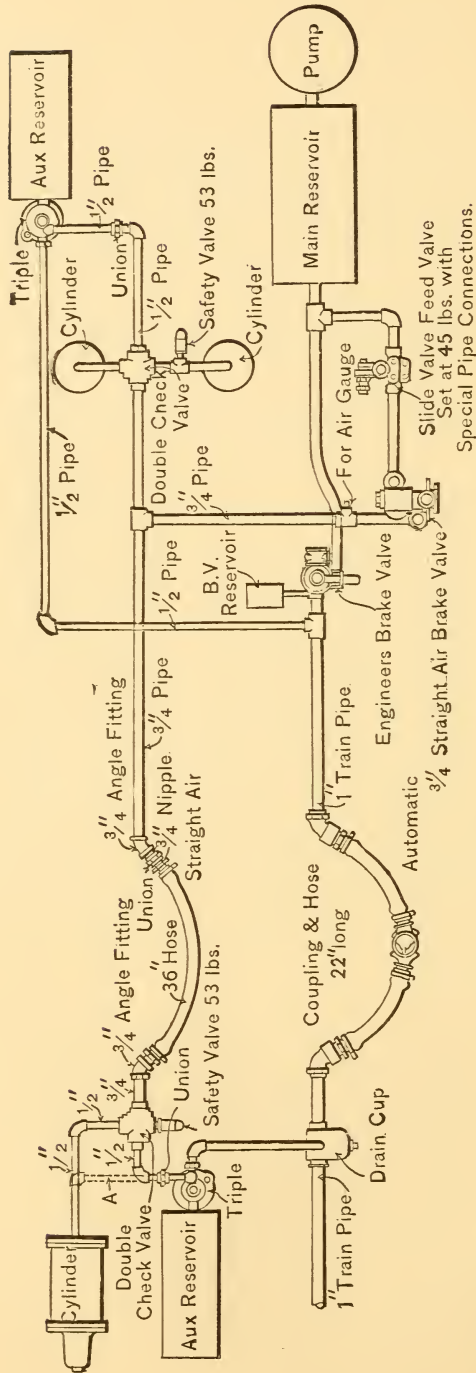
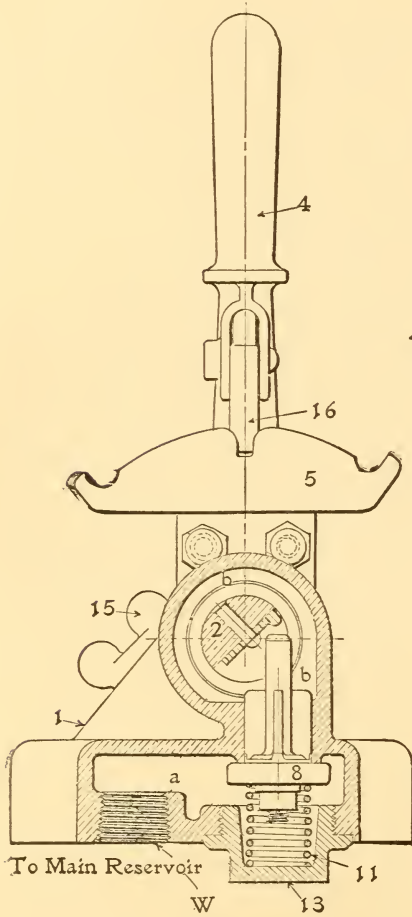
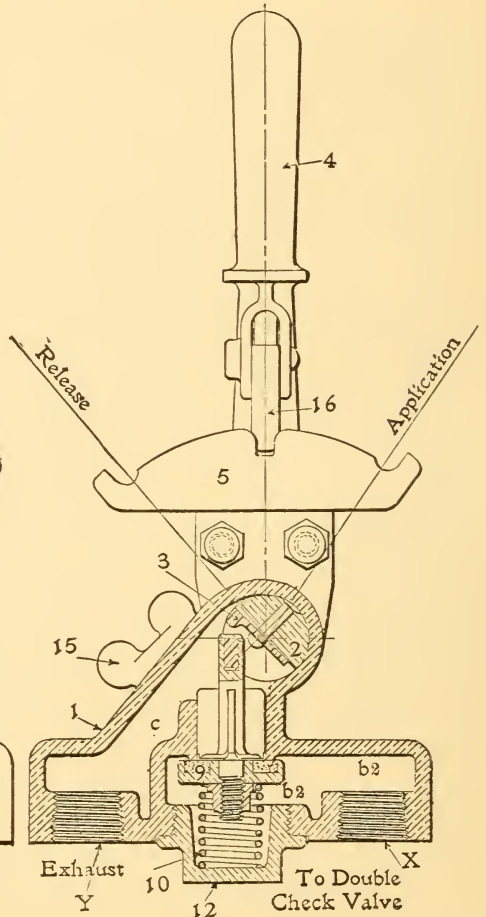

FIG. 62.—WESTINGHOUSE COMBINED AUTOMATIC AND STRAIGHT-AIR BRAKE.
FIG. 64.
FIG. 65.
A. As illustrated in Fig. 62, it is necessary to apply on the engine a Slide-Valve Reducing-Valve, a $\frac{3}{4}$ " Straight-Air Brake Valve, a Safety Valve set at 53 pounds, and a double check valve. On the tender the additional parts consist of a double check valve, a safety valve set at 53 pounds, and one 36-inch hose, with union, angle fittings and nipples.
Q. What is the object of the safety valve (Fig. 62)?
Q. What is the valve shown in Figs. 64, 65, 66, 67 and 68, and with what is it used ?
A. Fig. 66, a side view of the outside of the valve; the view (Fig. 68) is a horizontal cross-section through *FF* (Fig. 66); Fig. 67 is a vertical cross-section; Fig. 64, an end section showing the valve that controls the flow of pressure coming from the main reservoir; and Fig. 65 is an end section through a plane which permits the valve controlling the exhaust to be seen.
A. By the handle 4 acting through the shaft 2. As the handle is moved the shaft starts to rotate, thus causing one of the tappet pieces 3 (Figs. 64 and 65) to engage the stem of either valve 8 or 9, according to the direction in which handle 4 is moved. If moved to the right (Fig. 65) valve 8 is unseated; if moved to the left valve 9 (Fig. 65) is unseated. The shaft, as shown in Figs. 64, 65 and 67, is cut away in two places; at the bottom of each of the slots a tappet piece is fastened with two rivets.
A. As shown in Fig. 65 it is on lap; moved to the right it is in application or service position; and to the left it is in release position.
A. It has three and, as indicated, they connect with the main reservoir at *W*; the trainpipe, or the one leading to the double check valve, at *X* (Fig. 65); and to the exhaust at *Y*.
A. When the valve handle is moved to the right the tappet piece in the shaft engages the stem of valve 8, forcing the valve from its seat against the pressure beneath it and the tension of spring 11. Air which comes from the main reservoir through the reducing valve (Fig. 62) enters the brake valve at *W* (Fig. 64) and passes up by the unseated valve 8 into chamber *b*, thence through port *b*¹ (Fig. 67) into chamber *b*² and out at *X* (Fig. 65) into the pipe which leads to the double check valves (Fig. 62), and through these valves to the brake cylinders.
A. Spring 10 (Fig. 65), together with the pressure in chamber *b*², forces valve 9 to its seat and it thus prevents the escape of air to the atmosphere.
A. Valve 9 is forced from its seat and air from the brake cylinder comes back through the double check valves (Fig. 62), enters at *X* (Fig. 65) into chamber *b*², passes by the unseated valve 9 into chamber *c*, thence to the atmosphere at *Y*, and thus releases the air from the brake cylinders.
A. Release position; so placed any slight leakage of main reservoir pressure by the seat of valve 8 (Fig. 64) can not creep on the brakes, since the air would escape direct to the atmosphere by the unseated valve 9.